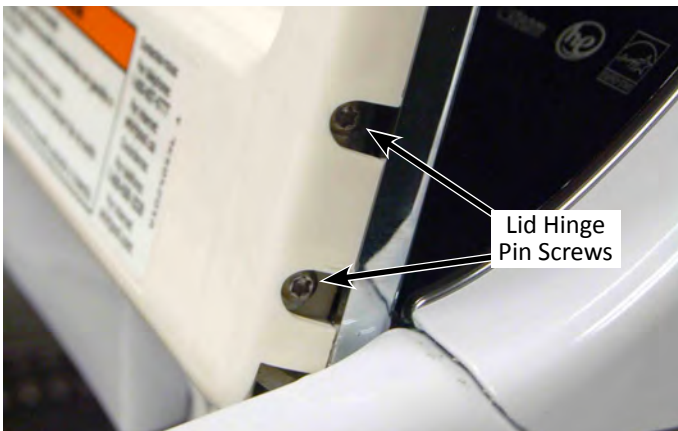

Figure 1
2. Raise the lid and remove the two hinge pin screws from both sides using a T15 TORX driver (see Figure 1).